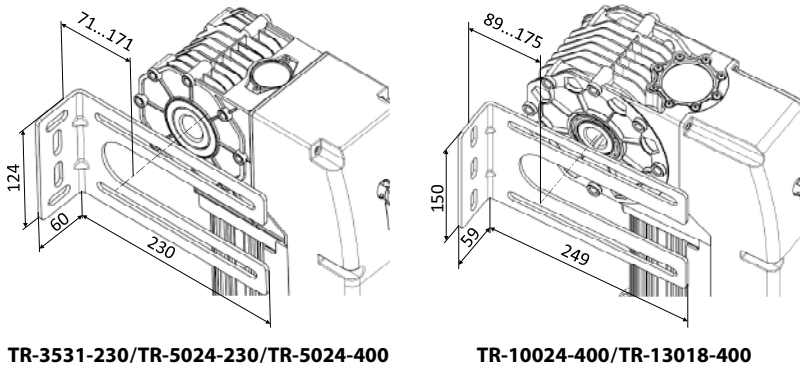

Figure 4. Dimensions of the mounting bracket
2. Mounting bracket **3** can be mounted to the left or to the right of the drive. Mounting bracket dimensions are given in fig. 4.